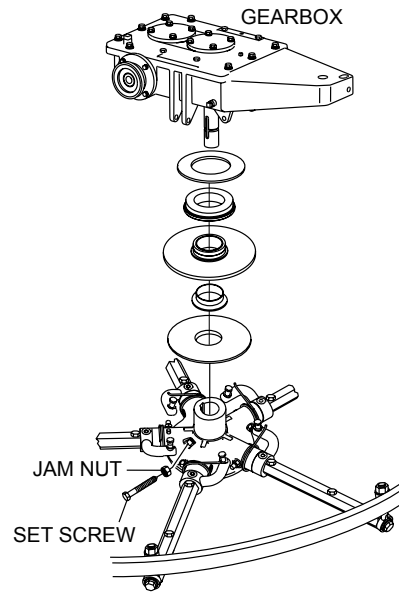

Figure 35. Spider Removal
1. Locate the cone point square head set screw (Figure 35) and attached jam nut found on the side of the spider assembly.